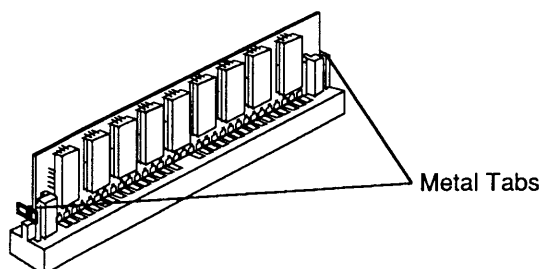

Figure 6-4 Metal Tabs on SIMM Socket
3. Removing a SIMM involves releasing the metal tabs on the ends of the socket (**Figure 6-4**). Refer to the *You Oughta Know* tab for instructions on using the SIMM removal tool.